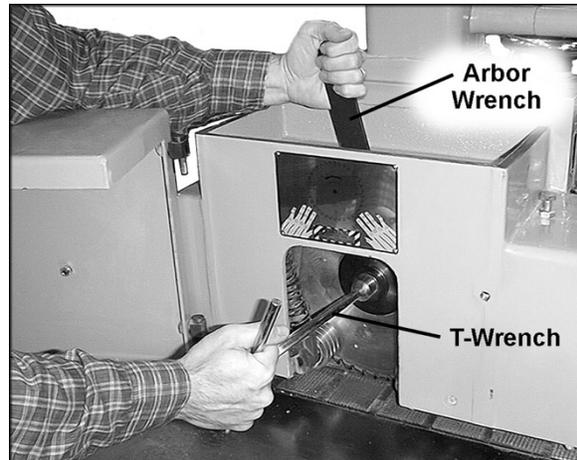

Figure 8
2. Unscrew knurled knob on blade guard and swing guard away, as shown in Figure 8.
4. Place the arbor wrench on the flat of the arbor shaft. Place the T-wrench on the screw head as shown (Figure 8). Hold the shaft stationary with the arbor wrench while loosening the screw.